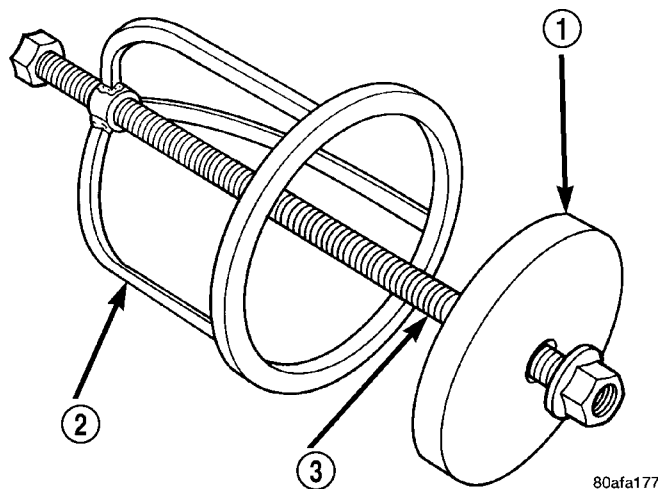
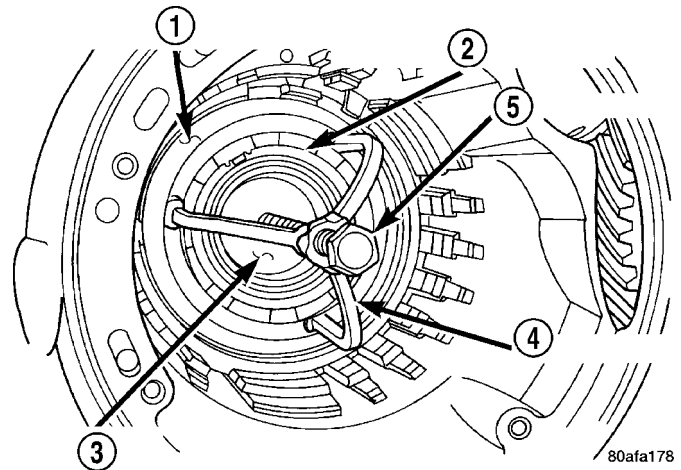

Fig. 72 Low/Reverse Spring Compressor Tool
Fig. 73 Compressor Tool in Use
(56) Install low/reverse spring compressor tool as shown in (Fig. 72) (Fig. 73).